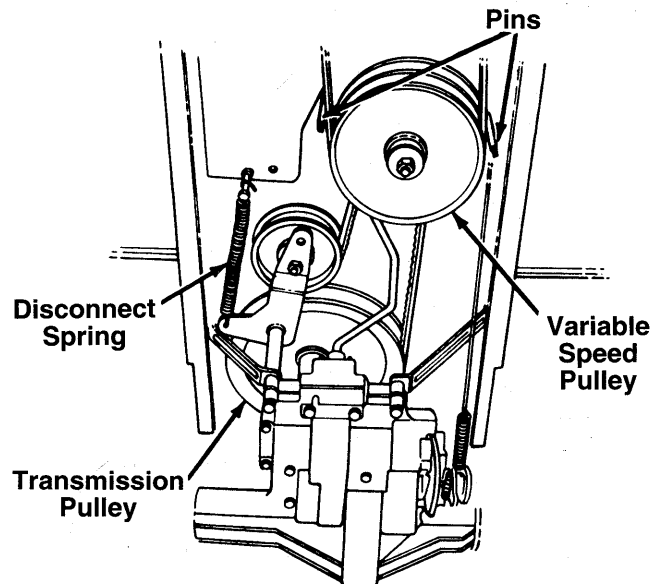

FIGURE 20.
5. Remove the two pins which act as belt keepers by the variable speed pulley. See figure 20.